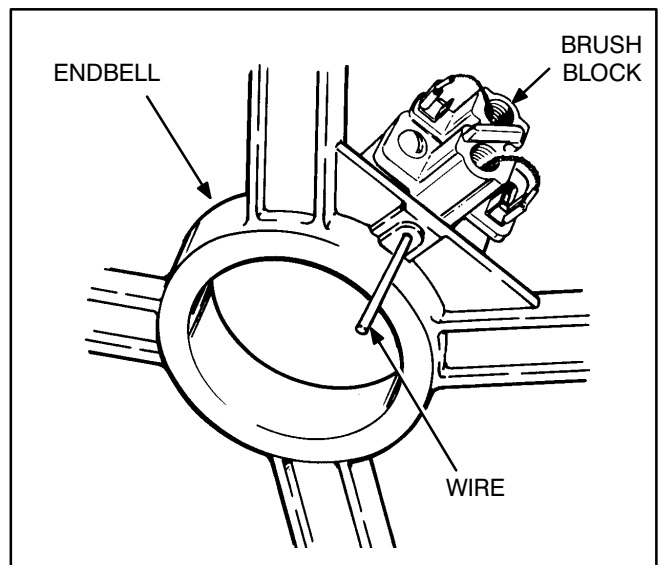

FIGURE 7-7. BRUSH BLOCK
3. Push each brush into the brush holder and insert a stiff wire through the small hole in the base of the holder (Figure 7-7). The wire holds the brushes off the slip rings during assembly.